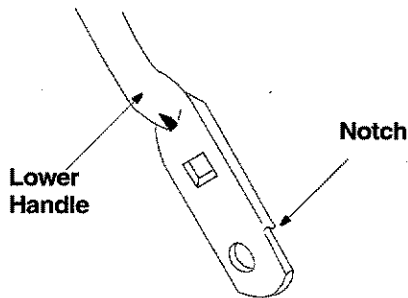

Figure 24
- Turn the lower handle around so the notch on the bottom of the lower handle is facing forward as shown in Figure 24. Reassemble, placing the bottom holes in the handle over the weld pins in the handle mounting bracket.